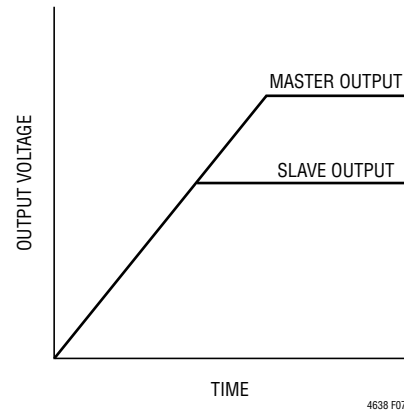

Figure 7. Output Coincident Tracking Waveform
Coincident output tracking can be recognized as a special ratiometric output tracking in which the master's output slew rate (MR) is the same as the slave's output slew rate (SR), waveform as shown in Figure 7.